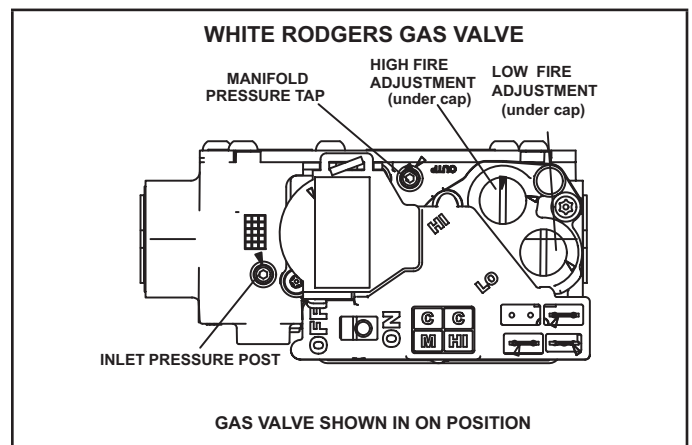

FIGURE 63
Gas Valve Operation (“FIGURE 63”)
- 6 - Move gas valve switch to **OFF**. See “FIGURE 63”.
- 8 - Move gas valve switch to **ON**. See “FIGURE 63”
An inlet post located on the gas valve provides access to the supply pressure. See “FIGURE 63”. Back out the 3/32 hex screw one turn, connect a piece of 5/16 tubing and connect to a manometer to measure supply pressure. See “TABLE 16” for supply line pressure.
A manifold pressure post located on the gas valve provides access to the manifold pressure. See “FIGURE 63”. Back out the 3/32 hex screw one turn, connect a piece of 5/16 tubing and connect to a manometer to measure manifold pressure.
- 5 - If necessary, make adjustments. “FIGURE 63” shows location of high fire and low fire adjustment screws.